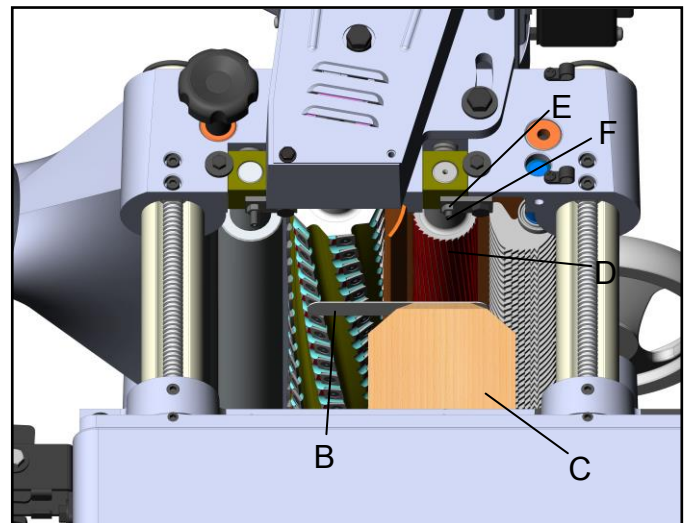

Fig. 21
1. Move the gauge block (C) under on end of the infeed roller (D, Fig. 21). Using a 0.5mm feeler gauge (A). The bottom of the infeed roller should just touch the feeler gauge (B). If an adjustment to the infeed roller is necessary; loosen locknut (E) and turn screw (F) until the infeed roller just touches the gauge block. Then tighten the locknut (E).